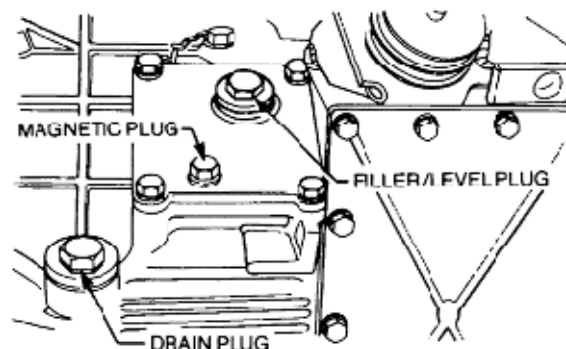

Figure 56 Transmission Filter Removal
- a. Remove the filler/level plug from the left-hand side of the transmission (Figure 56).